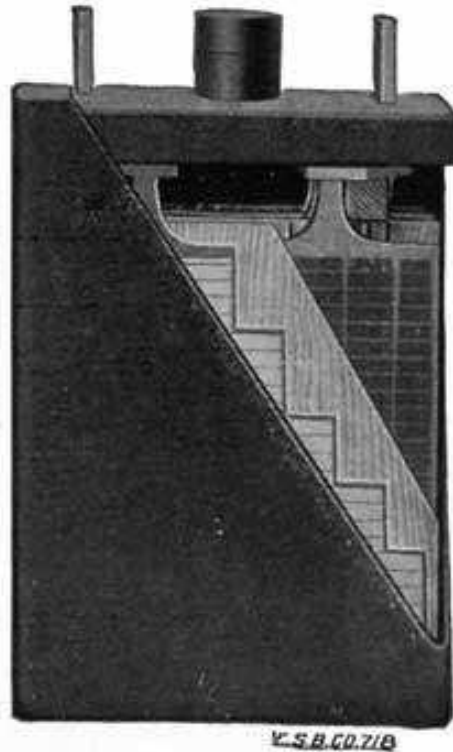

Fig. 326. Exide Cell with Sealed Rubber Jar
**1. The Exide cell** is shown in Fig. 326. It is assembled similar to Exide starting and lighting batteries, except that the plates are considerably thicker, wood and rubber separators are used, and the terminal posts are shaped to provide for bolted instead of burned-on connection. The method of sealing and unsealing the cells is the same as in Exide starting and lighting batteries.